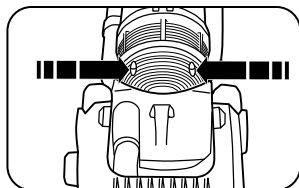

Fig. 6
2. Remove the two screws from the headlight lens (Fig. 6).